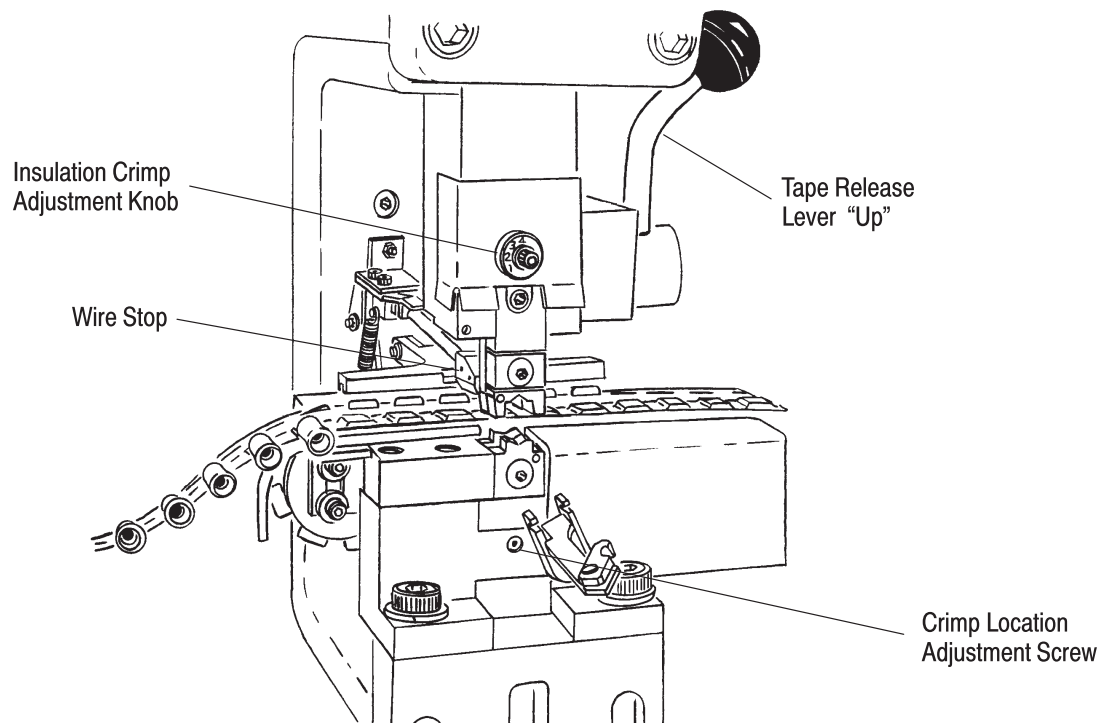

Figure 18
### 7.2. Insulation Crimp Adjustment (Figure 18)
3. Insert a hex wrench in the crimp-location adjustment screw (Figure 18).